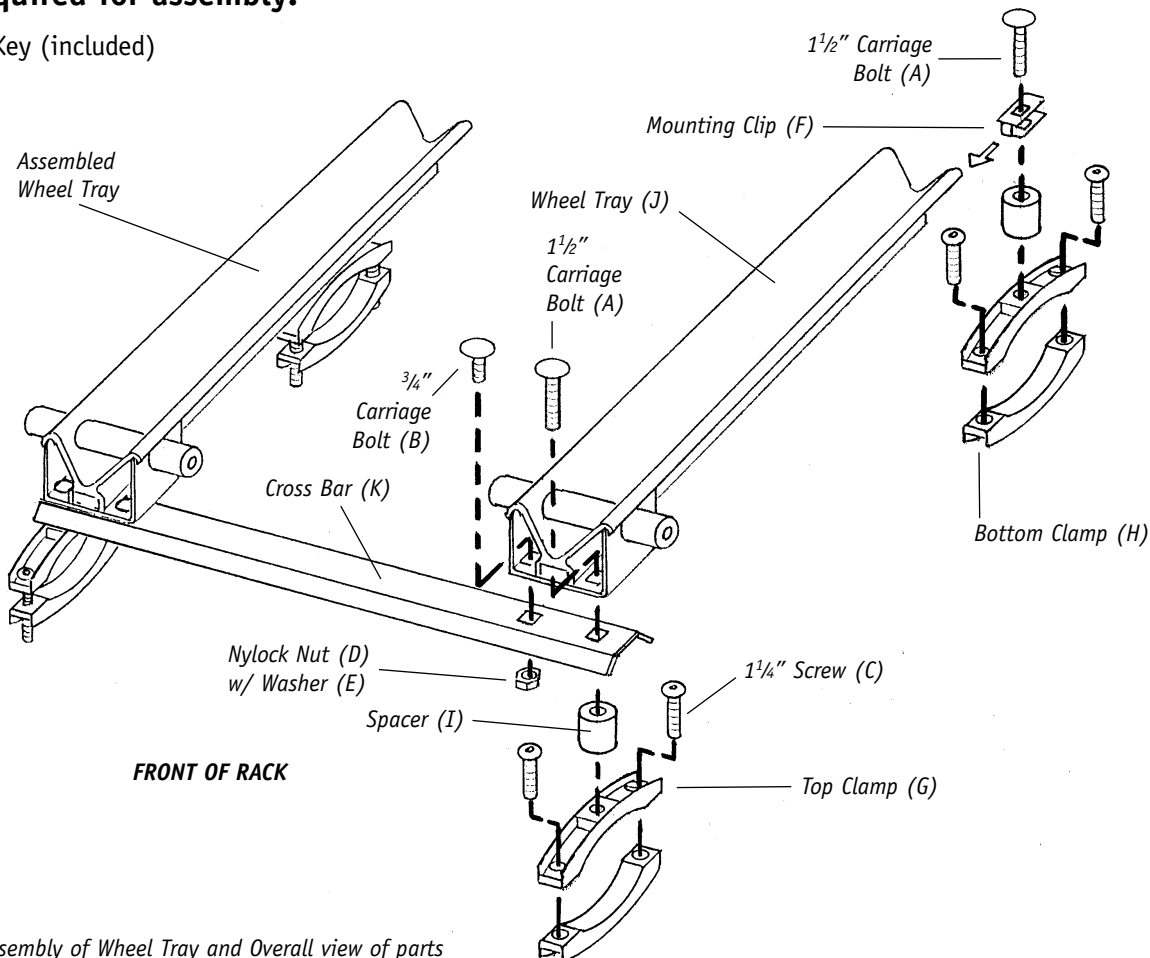

Figure 1, Assembly of Wheel Tray and Overall view of parts
1. Assemble each Wheel Tray (J) to the Crossbar (K) with a 1½" Carriage Bolt (A), Spacer (I) and Top Clamp (G) as shown in figure 1 (turn the top clamp to tighten). Then install the ¾" Carriage Bolt (B), Flat Washer (E) and Nylock Nut (D). Tighten the nut and top clamp securely. The top clamp should be parallel to the Wheel Tray (see the assembled Wheel Tray in figure 1).
2. For the rear clamp, loosely assemble a 1½" Carriage Bolt (A), Mounting Clip (F), Spacer (I) and Top Clamp (G). Refer to figure 1 again (turn the top clamp to tighten). Slide the assembly into the rear of the Wheel Tray (J). You will position this clamp later.
1. Adjust the spacing of the vehicle's luggage rack cross bars to be 24" to 36" apart. Center the Factory Rack on the cross bars (when viewed from the front of your vehicle) as shown in figure 4 and attach the front of the rack with the Bottom Clamps (H) and 1¼" Screws (C) (see figure 1).
2. Slide the rear attachment clamp assembly so it is over the **vehicle's** rear cross bar, and turn the top clamp unit it is tight and parallel with the wheel tray. Attach the Bottom Clamp (H) with the 1¼" Screws (C) (see figure 1 & 4).